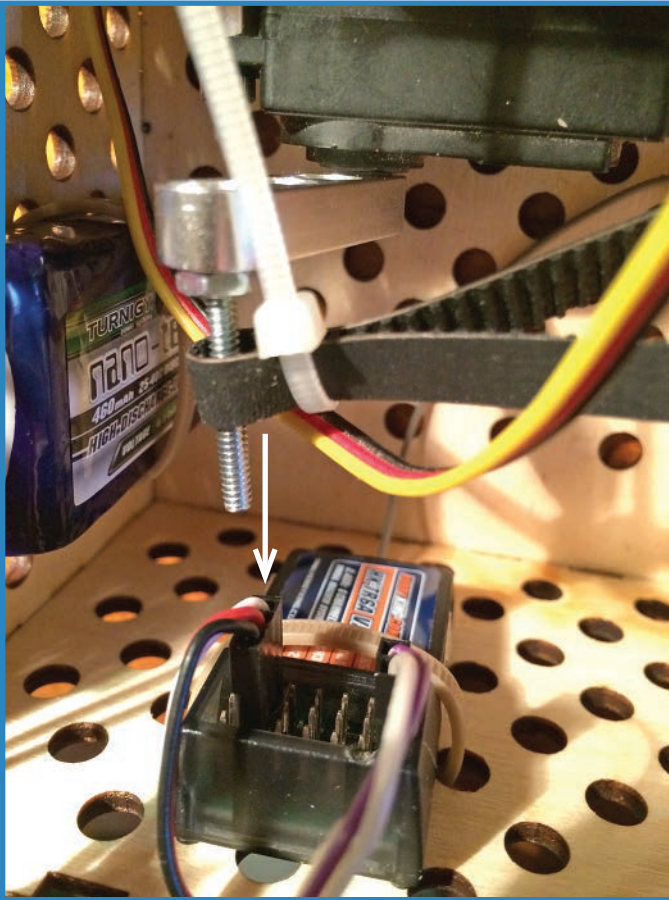

FIGURE 7.20 Plug the ESCs and servo in to the receiver.
- c. The three-wire plugs on the ESCs plug in to the receiver. The black wire goes on the side of the row of pins opposite the antenna, as shown in Figure 7.20. Plug them in to channels 2 and 3. While you're at it, connect the servo plug as well. Put this one into channel 6.